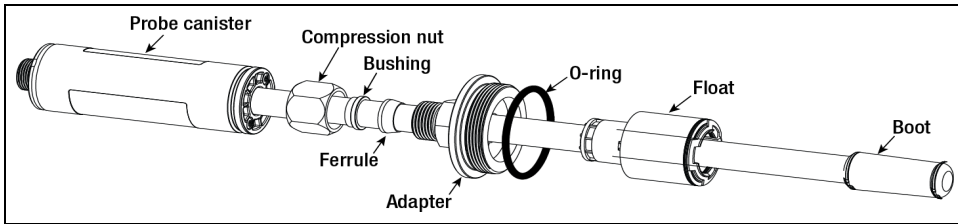

Figure 3.
8. Apply Lubriplate 630-AA, or similar grease to the o-ring and position it into the groove under the flange of the adapter (see Figure 3).
9. Referring to Figure 3, slide the parts onto the Mag Probe shaft in the following order: compression nut, stainless steel bushing, plastic ferrule, adapter with o-ring, and float. Finally, push the boot onto the bottom of the shaft until it snaps into the groove. Apply Lubriplate 630-AA, or similar grease to both the flat and tapered surfaces of the plastic ferrule prior to installation.